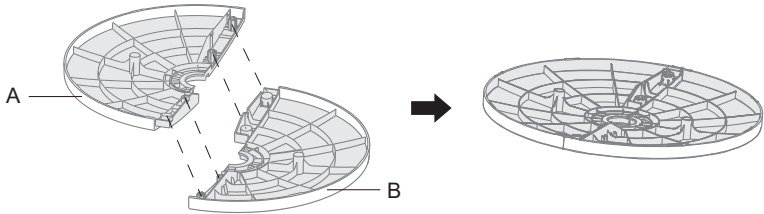

Fig 1
1. Take out the two parts of base from packing box. Insert the two poles of part A into two holes of part B, and insert the two poles of part B into two holes of part A to assemble the base as Fig 1.